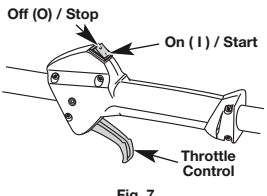
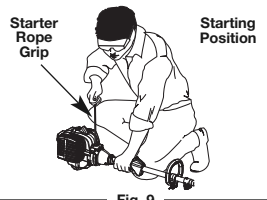

Fig. 7
Fig. 9
WARNING: Avoid accidentally starting the unit. To avoid serious injury, the operator and the unit must be in a stable position when pulling the starter rope (Fig. 9).
- NOTE:** There is no need to turn the unit on. The On/Off switch is in the ON (I) position at all times (Fig. 7).
- Crouch in the starting position (Fig. 9).
- Squeeze the throttle control (Fig. 7) and pull the starter rope with a controlled and steady motion **5 times** (Fig. 9).
- Press and hold the On/Off switch in the OFF (O) position until the engine comes to a complete stop (Fig. 7).